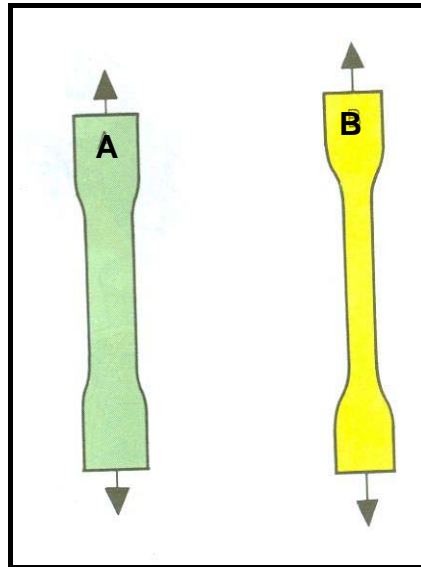

FIGURE 4.3
4.5 Which of the materials, A or B, shown in FIGURE 4.3 has the lower tensile strength and why? (The same force is applied to both materials.)